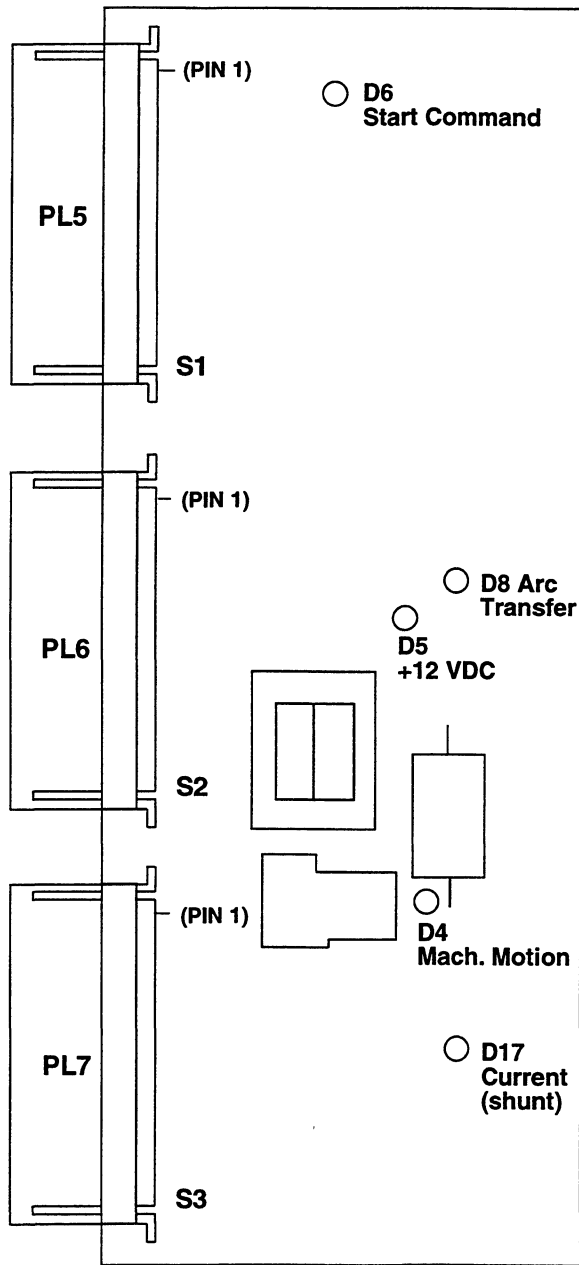

Figure 5-6 PCB4 Control Board
after torch moves away from plate. See Figure 5-6 for location
1. Observe D8 on PCB4 (see Figure 5-6) and see if it illuminates after main contactor closes (see sequence flowchart earlier in this section). If it does not illuminate, continue to next step. If it does illuminate, return to *Troubleshooting* section.